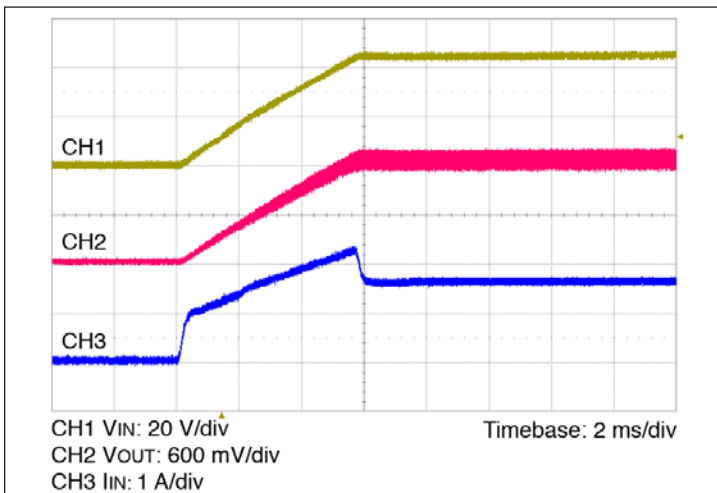

Figure 13 — Start up from application of V_{IN} ; VC pre-applied $C_{OUT} = 0 \mu$ F
- **Normal Operation (VC applied prior to V_{IN}):** In this case the controller is active prior to ramping the input. When the input voltage is applied, the VTM output voltage will track the input (See Figure 13). The inrush current is determined by the input voltage rate of rise and output capacitance. If the VC voltage is removed prior to the input reaching 26 V, the VTM module may shut down.